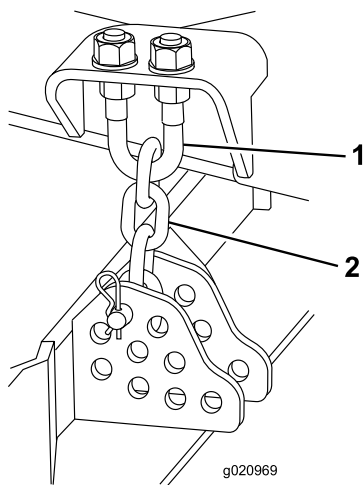

Figure 74
1. Loosen the jam nuts on the top or bottom of the height-of-cut chain U-bolt (Figure 74).